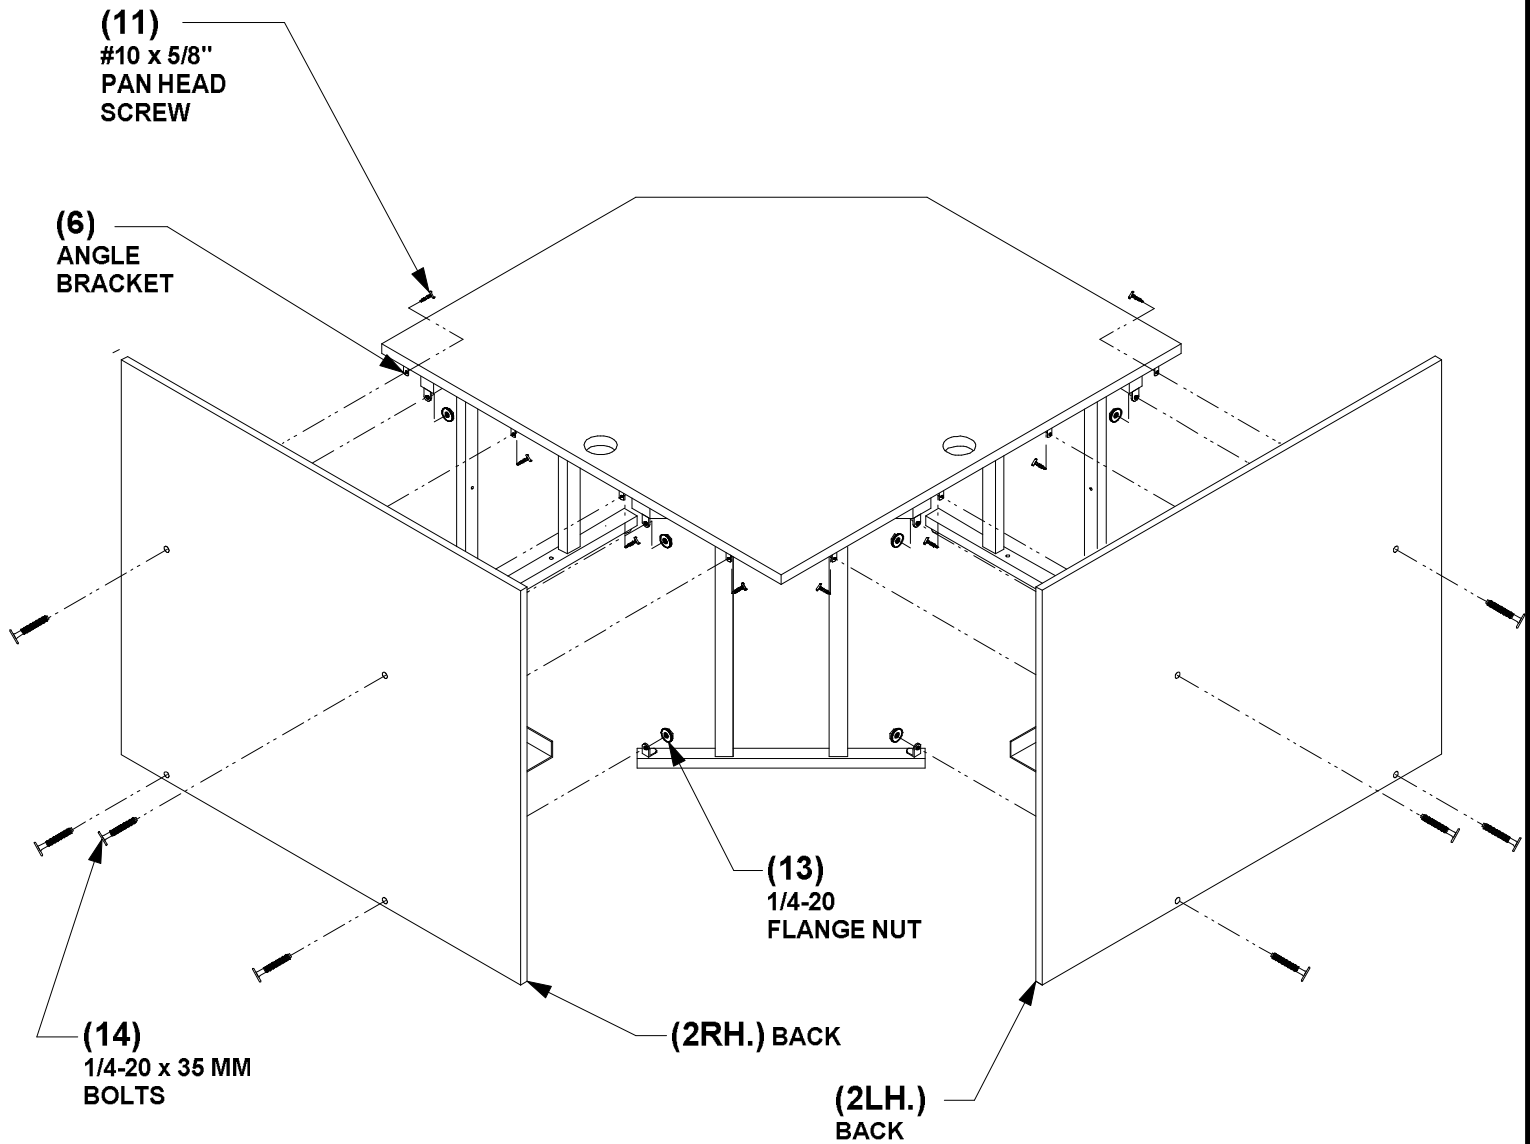

FIGURE 3
5. Attach backs (2LH., 2RH.) to table using 1/4-20 x 35 mm bolts (14) and 1/4-20 flange lock nuts (13). See figure 3.
6. Attach angle brackets (6) to backs (2LH., 2RH.) using #10 x 5/8" pan head screws (11).